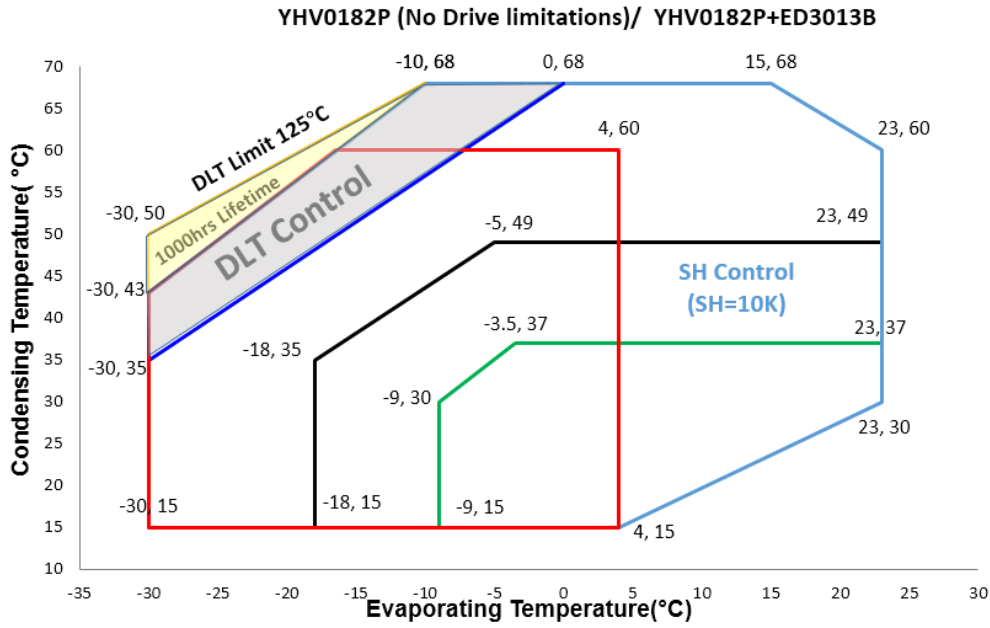

Figure 4: Application envelope for YHV0182P-9E9 using R452B and R454B
- The qualified application envelopes will change with the compressor speed. At all operating conditions the minimum and maximum speed limits according to **Figures 4 to 7** have to be respected. With changing operating conditions the speed limits have to be determined by linear interpolation between the limits given in **Figures 4 to 7** – also see speed limits animation in Select software available at www.climate.emerson.com/en-gb.